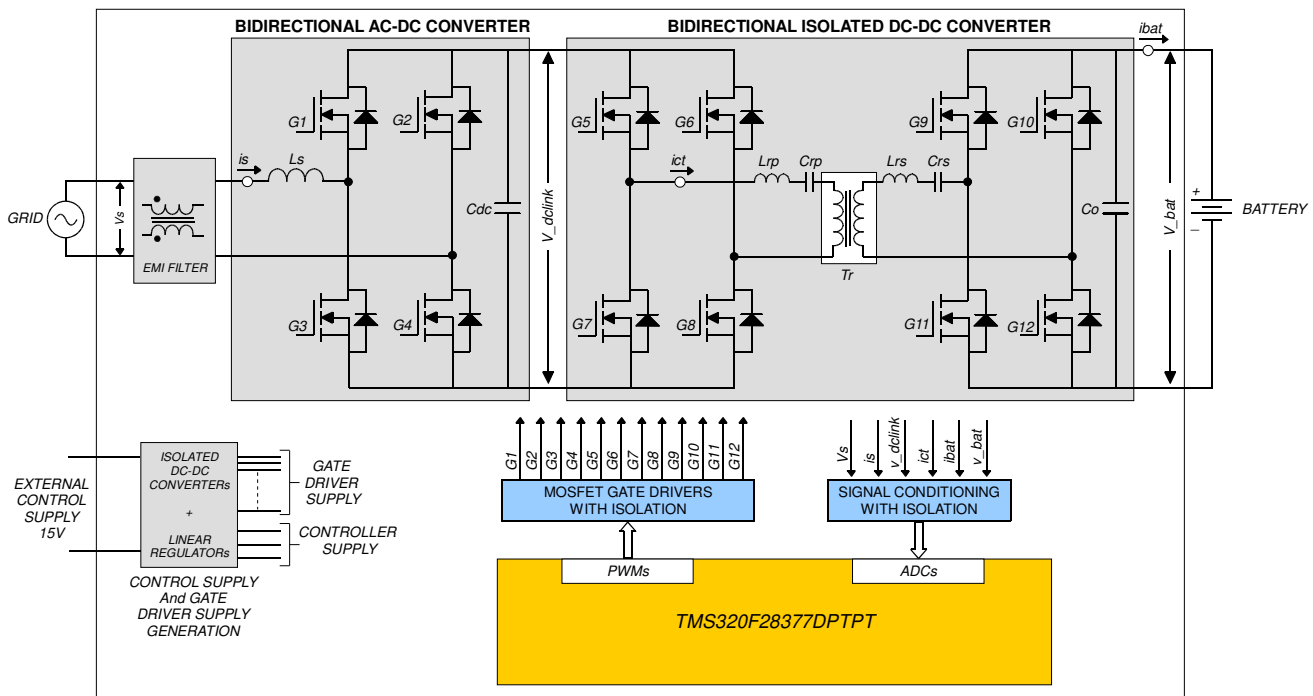

Figure 1. Block diagram of Wolfspeed’s CRD-06600FF10N, 6.6 kW bi-directional EV on-board charger
Wolfspeed’s CRD-06600FF10N, 6.6 kW Bi-Directional EV On-board charger (OBC) is designed to operate from universal single-phase input and provide an output voltage in the range of 250 VDC to 450 VDC. The front-end AC/DC PFC (Power Factor Correction) stage consists of a Totem-Pole Bi-Directional topology followed by a Bi-Directional Isolated DC/DC stage which uses a symmetric CLLC converter. The input and output sides of the Bi-Directional Isolated DC/DC stage carry H-bridge topologies. Input is isolated from the output through a high-frequency transformer. Even though this board is designed for electric vehicle (EV) application, there is no battery charging algorithm built in and the board must be tested on resistive load only. Output current is limited to 20 A at 250 VDC output. AC/DC PFC stage runs at a fixed frequency of 67 kHz and DC/DC CLLC stage runs at fixed frequency close to 200 kHz. The output voltage is regulated by varying DC link voltage, which is an open loop control. Output voltage can be set by a potentiometer provided on the control board. A block diagram of Wolfspeed’s CRD-06600FF10N, 6.6 kW Bi-Directional EV On-board charger is shown in Figure 1.